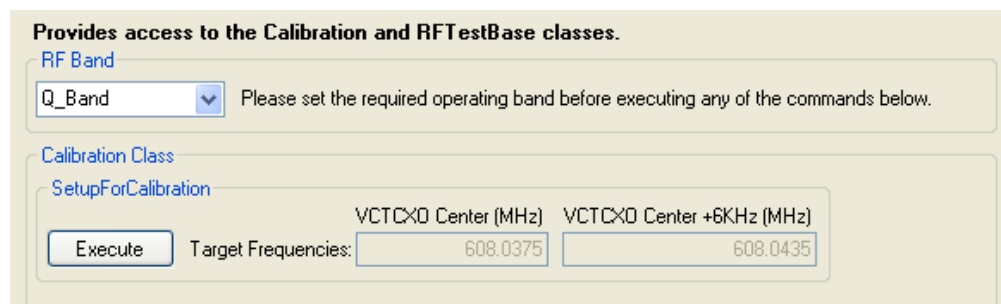

Fig 1
3. Set the RF Band to Q band in the dropdown menu (fig 1).
4. Press the SetupForCalibration [Execute] button (fig 1).